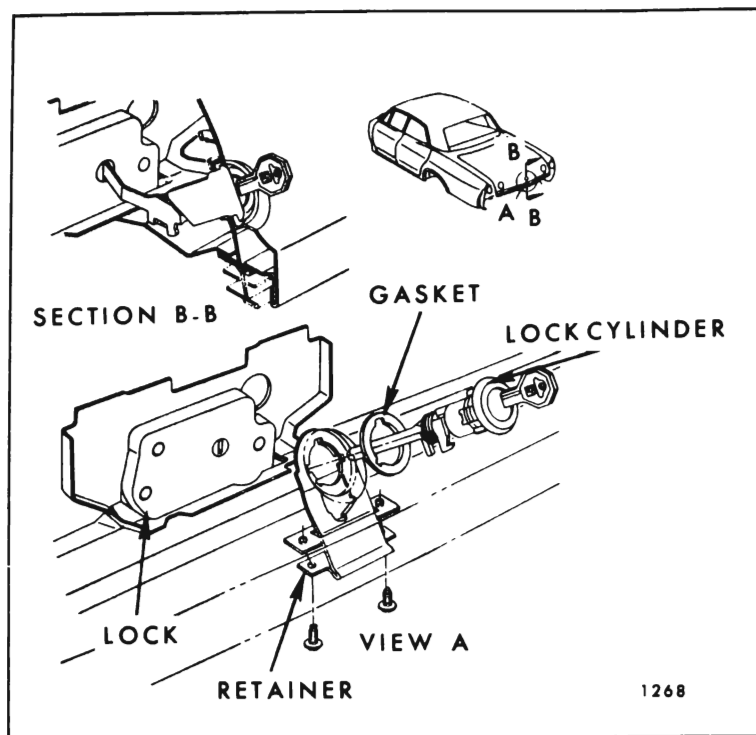

Fig. 9-11—Rear Compartment Lid Lock Cylinder
- Open rear compartment lid. Remove lock cylinder retainer attaching screws located on lid inner panel below lock cylinder and adjacent to lid hemming flange (Fig. 9-11).
and that gasket mates properly with compartment lid outer panel to form a watertight seal. Check lock for proper operation (section "B-B" in Fig. 9-11).